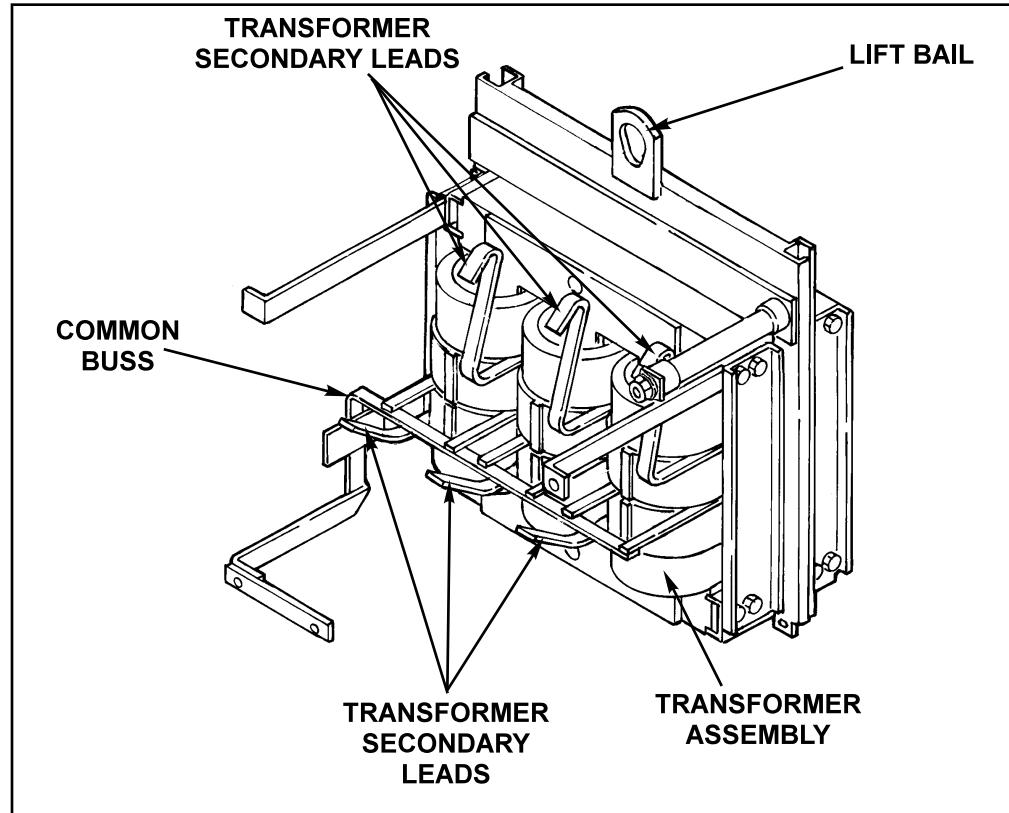

**FIGURE F.3 - Input Contactor, Reconnect Panel, and Primary Leads to Main Transformer Locations**
2. Inspect the Input Contactor, Reconnect Panel, and primary leads to the Main Transformer for loose or faulty connections. See Figure F.3.